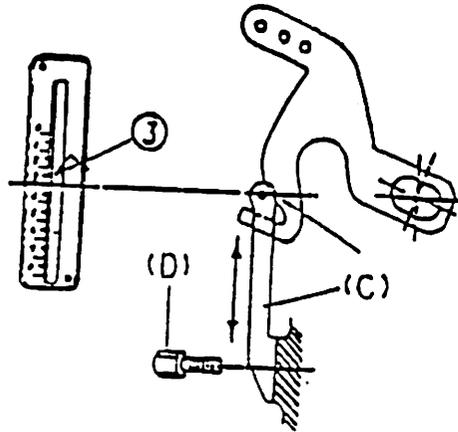

Fig. 16
(18) Adjustment of Spreader Mechanism
a) Loosen the screw D and adjust the position of the spreader thread guide C shown in Fig 16 so that the thread guide hole shall be lined with the graduation '3' of the scale.